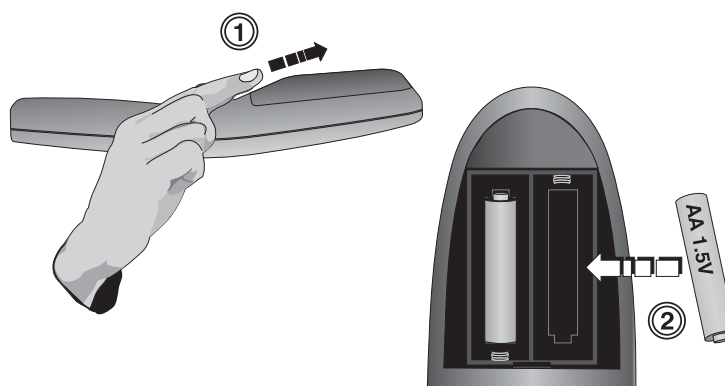

Figure 4.1. Replacing remote batteries (underside of keypad shown)
The optional IR remote uses two AA size, 1.5V alkaline batteries. To replace the batteries simply turn the remote over and push out the cover using the finger groove, as shown in (1) Figure 4.1.